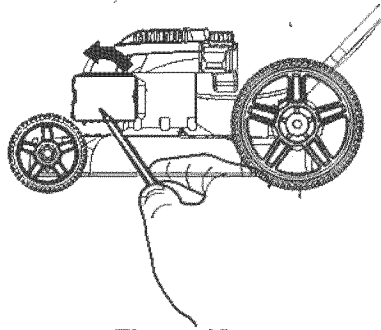

Figure 12
1. Use a screw driver to open the air filter cover (Figure 12).